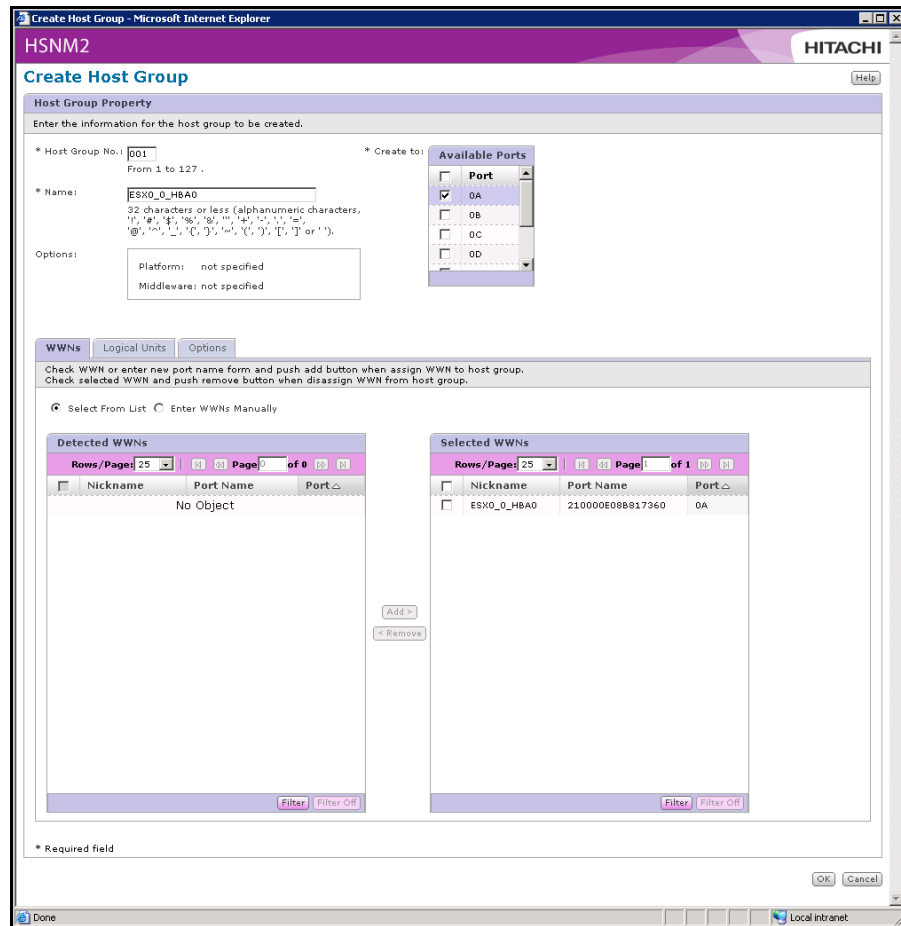

Figure 4-7: Example of Create Host Group Page
- To create a host group, click **Create Host Group**. A Create Host Group page appears (Figure 4-7).